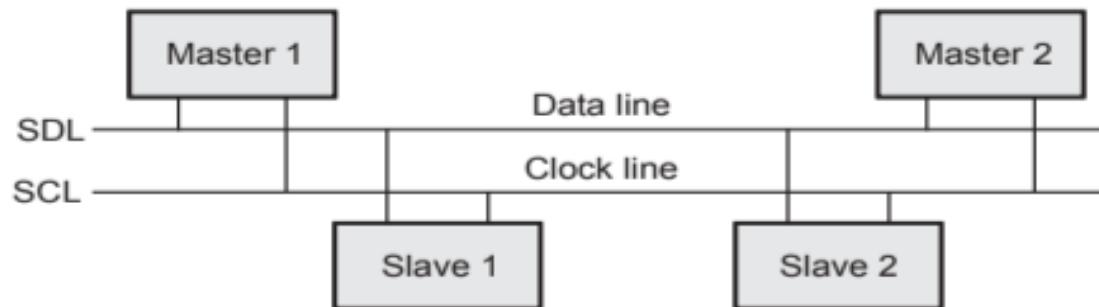

Fig. 5.12.1 Physical layer of I²C bus
- Fig. 5.12.1 shows physical layer of I²C bus.